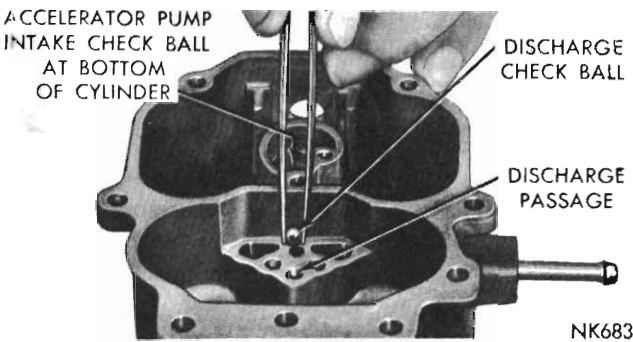

Fig. 6 - Installing accelerator pump discharge check ball
(1) Invert the main body and place the insulator in position, then place the throttle body on main body and align. Install screws and tighten securely.
(2) Install the accelerator pump discharge check ball (5/32 inch diameter) in the discharge passage, as shown in (Fig. 6). Drop the accelerator pump intake check ball (3/16 inch diameter) into the bottom of the pump cylinder.